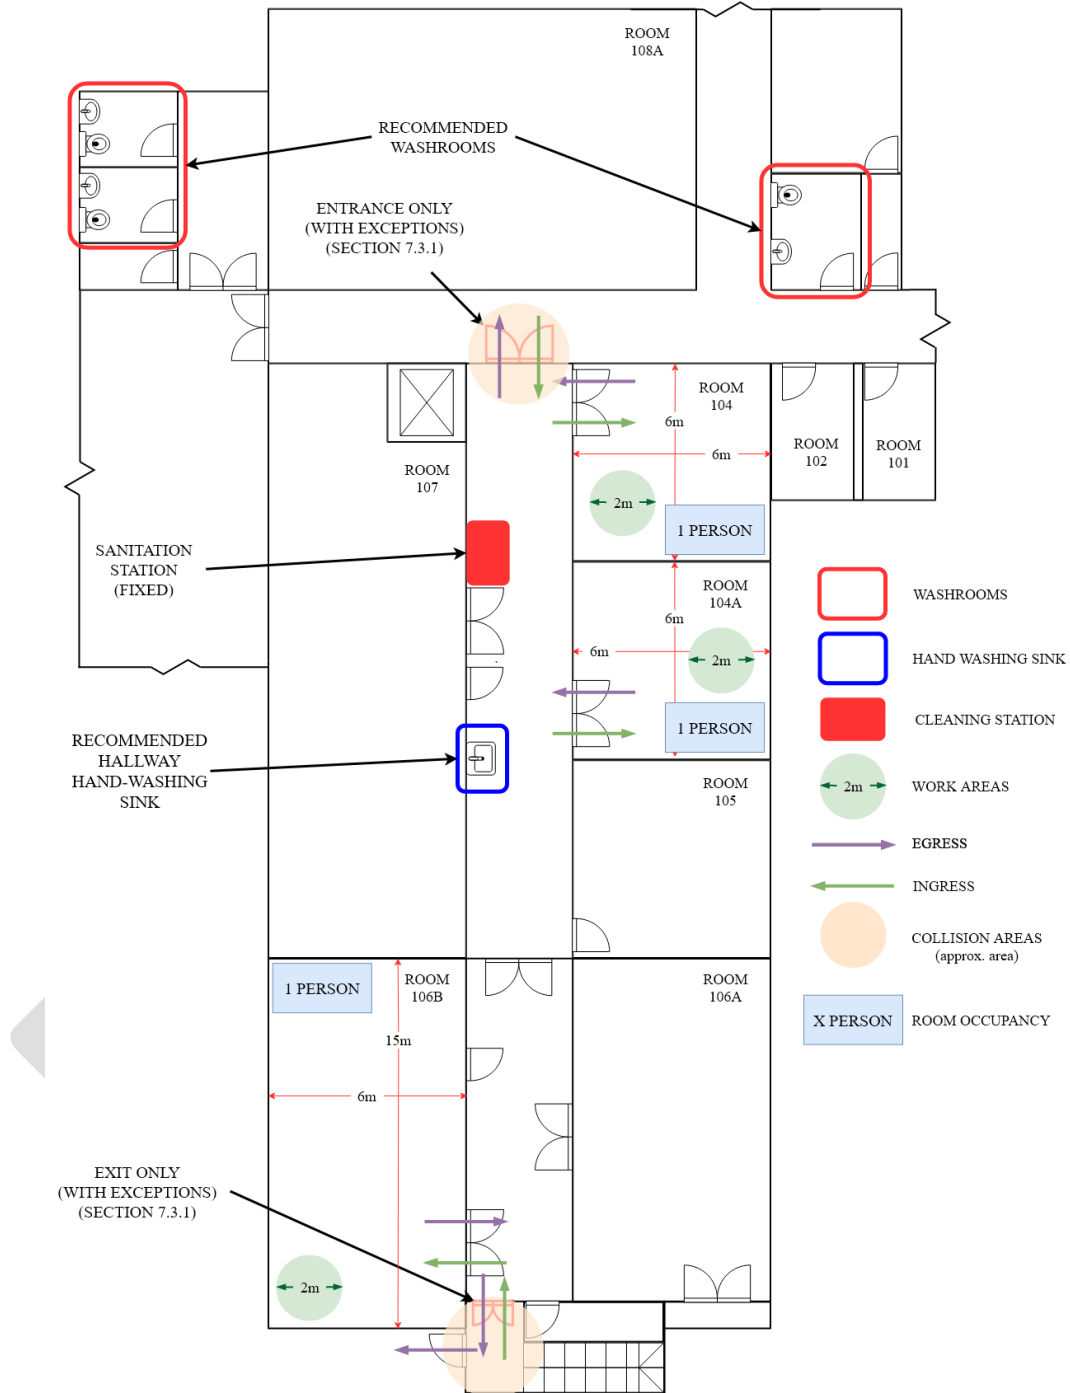

Figure 3: Layout of TMRL Laboratory and "Core" Spaces
- All users must knock on doors before entering or exiting through a door. In the event of a “collision”, particularly in “collision area” identified in Figure 3, the individual entering a space will yield and allow for 2m distance as the room occupant exits. Due to the nested room arrangement the following hierarchy will apply: **Laboratory Rooms (JHE 104, 104A, 106) > First Floor Mech Eng Hallway (Core) > JHE**
7.4.2 Users must wash their hands with soap and water for 30 seconds every 60 minutes or less. The nearest hand washing station is found in the hallway (core space) (Refer to Figure 3)